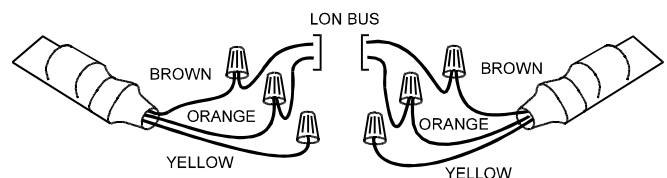
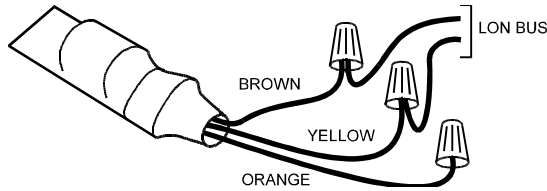

Fig. 79. Termination Module 209541B connections for doubly-terminated FTT network
Fig. 80. Termination Module 209541B connections for a singly-terminated FTT network
- 209541B LONWORKS Bus Termination Module (see Fig. 79 and Fig. 80) and